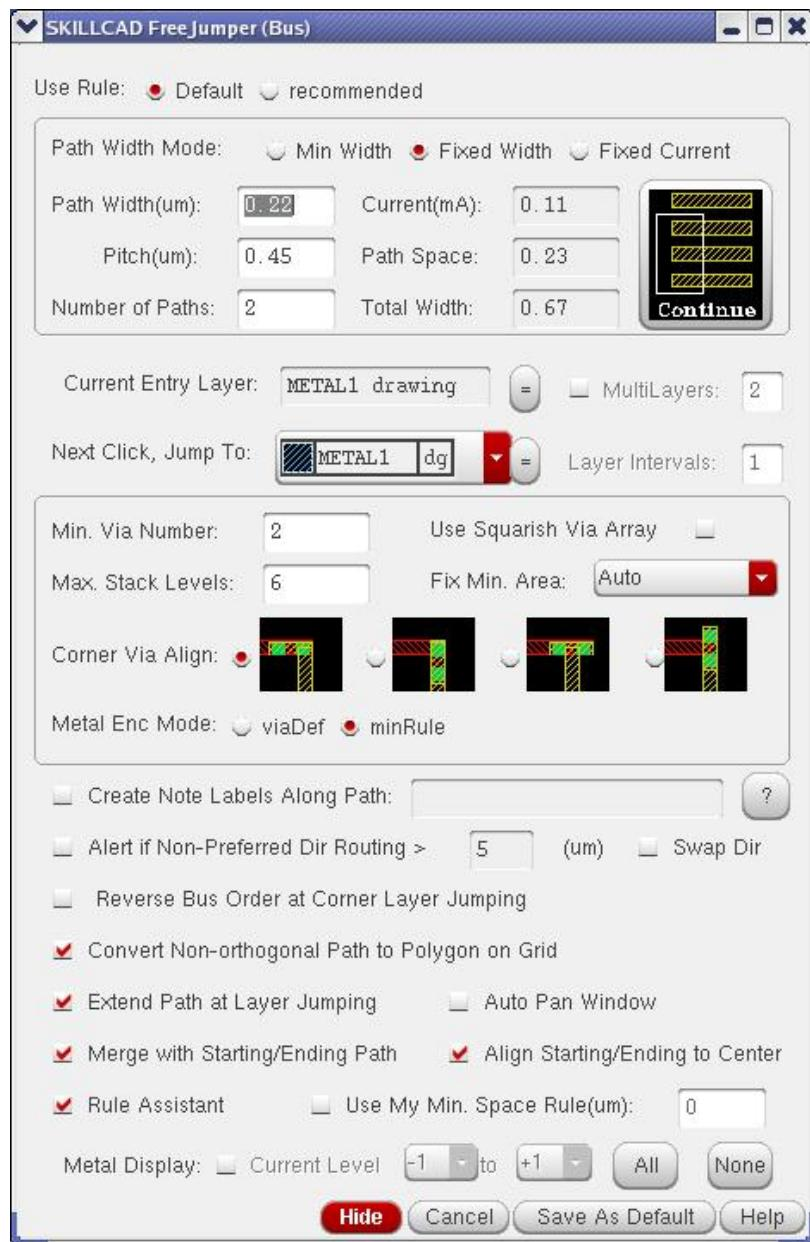

FIG. 28 Skillcad FreeJumper: Bus Jumper
Most options in the Bus jumper form shown in FIG. 28 are the same as the path Jumper. In bus jumper, the user needs to specify “No. of Paths” and path Pitch. And there is no net probing feature in bus jumper, since there are multiple nets during bus connection.
- 0) If the current entry in not metal1, hit key 1, otherwise, this step can be skipped.
- 1) Set the Bus Jumper form as shown in FIG. 28
- 3) Hit key 2 (to jump to the routing METAL2 after next click)
- 5) Hit key 3 (to jump to the routing METAL3 after next click)